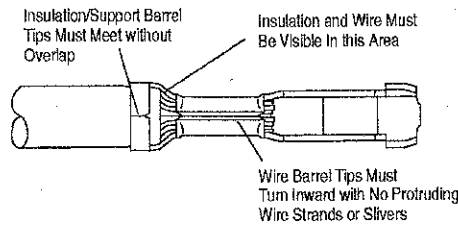

Figure 4
- C. Crimped configuration:** The wire barrel must be crimped so that the tips of the wire barrel will turn inward and capture all wire strands. The insulation barrel will be crimped so that the tips of the insulation barrel will butt against each other and grip the insulation firmly without cutting into it to form an insulation support. See Figure 4.